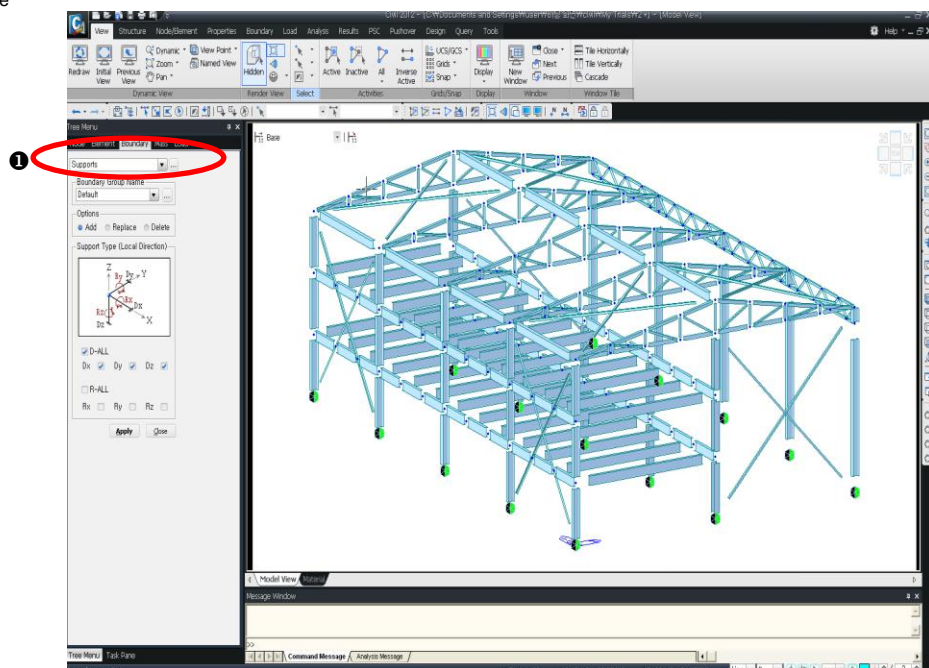

Figure 2.16 Data Entry of Support Conditions
1. Select the **Boundary** tab (in the Tree Menu) as shown in Fig.2.16–①.
7. Check (✓) “**D-ALL**” in the **Support Type** selection field. ②
② When the coordinates of a node has been defined by Node Local Axis, the restraints are also defined with respect to the Node Coordinate.